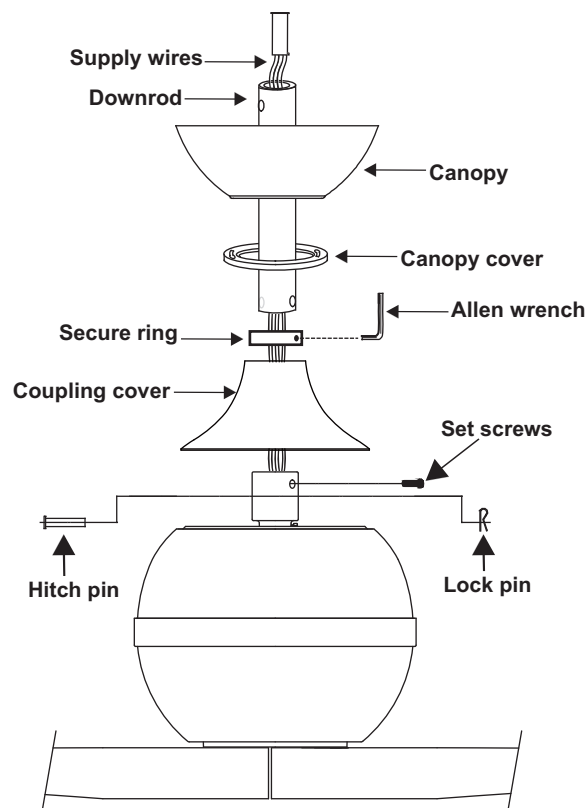

Figure 5
5. Loosen the two set screws and remove the hitch Pin and lock pin from the central shaft/top coupling of the motor assembly. Doing so will allow the down rod to enter the central shaft. (Fig. 5)